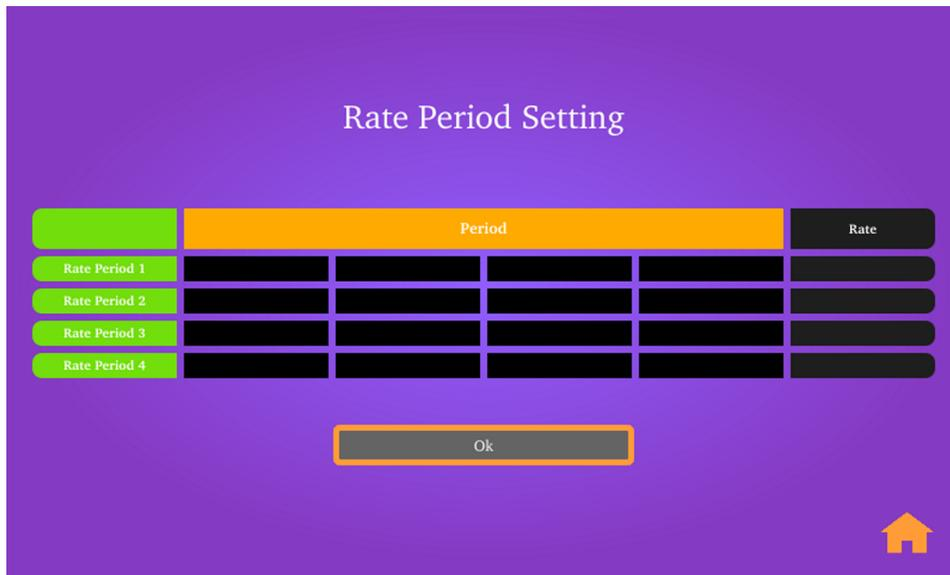

Figure 11. EVSE HMI Demonstration GUI—Rate Period Setting Screen (Page Three)
6. Figure 11 shows page three of the GUI.